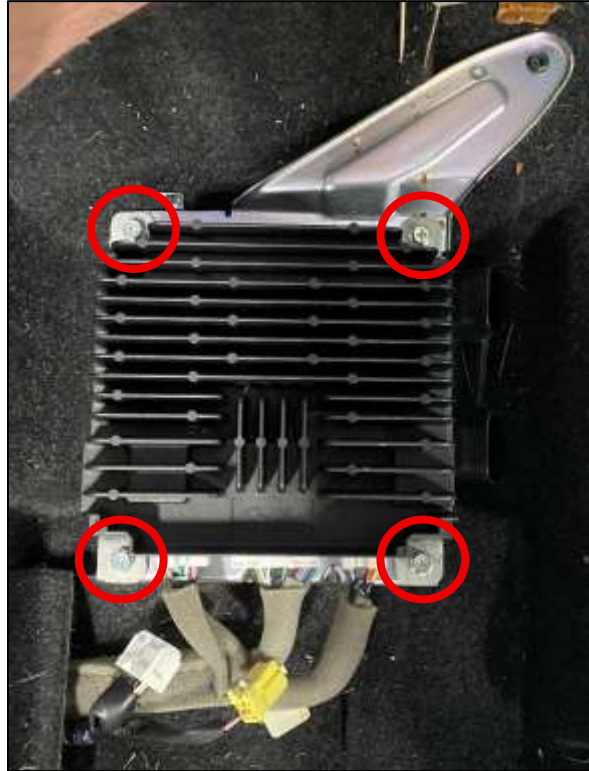

Figure 5
10. Remove the (4) four screws securing the OE Fender Amp to the floor bracket and set the Amp aside. Retain these bolts. *Figure 5.*